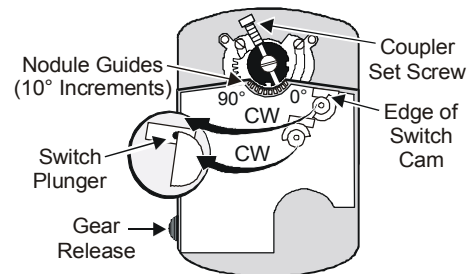

Figure 12: Switch Cam Angle Settings
- Rotate Switch Cam S1 CW, and align the edge of the switch cam with the switch plunger until plunger rises. (See Figure 12.)
- Rotate Switch Cam S2 CW, and align the edge of the switch cam with the switch plunger until the plunger rises. (See Figure 12.)
2. Rotate Switch Cam S1 CCW, and align the edge of the switch cam with the switch plunger so the plunger is raised. (See Figure 12.)
2. Rotate Switch Cam S2 CCW, and align the edge of the switch cam with the switch plunger so the plunger is raised. (See Figure 12.)